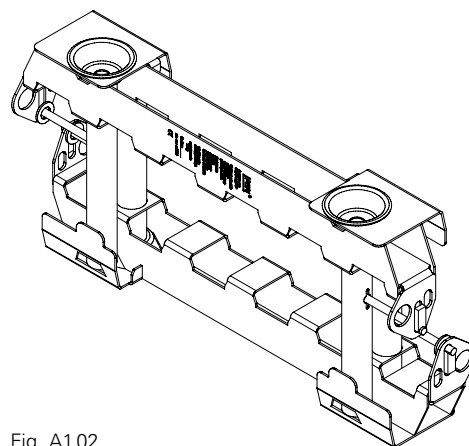

Fig. A1.02
- For temporary storage, insert two Stacking Devices GF into each other. (Fig. A1.02)